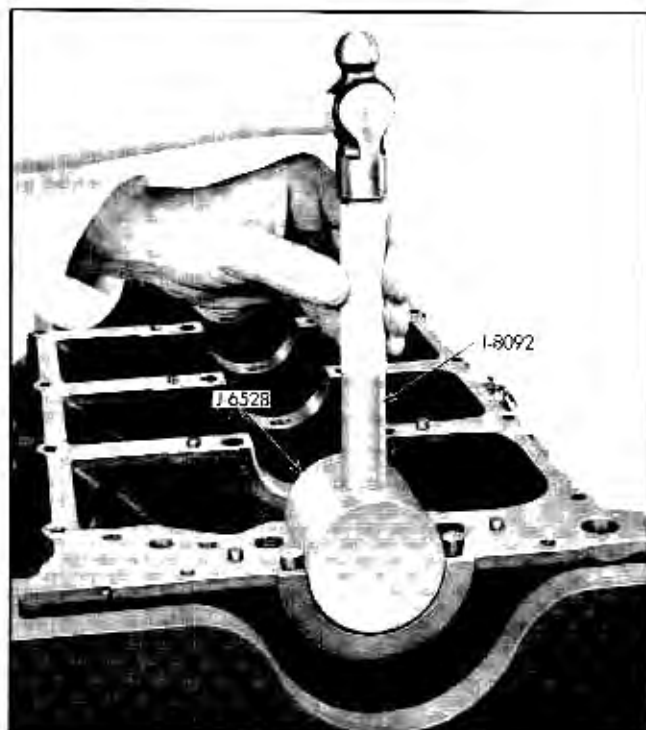

Fig. 6-72 Compressing Seal in Block
a. Place seal in groove in block and pack tightly with hammer and tool J-6528 (Fig. 6-72).